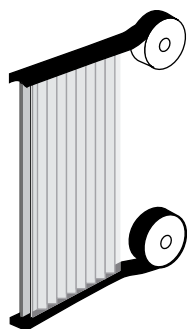

Figure 17b
3. **Sealing the Sheets** is done by aluminum impermeable, or ventilated filter sticky tapes, as described in the paragraph “Pre-preparation of the sheet” above. Such specialty tapes can be obtained from the leading tape manufacturers, or through PALRAM dealers (See figures 17b, 17c).